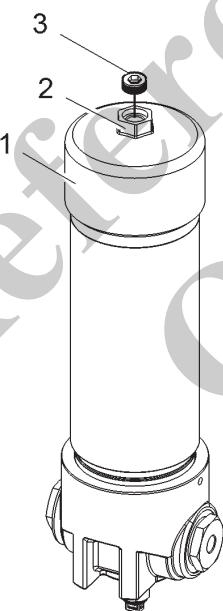

Fig. 21 HydroClean
3	Unscrew the cover (1) in Fig. 21 using the integrated hexagon head (2) in Fig. 21.
8	Reinstall the cover (1) in Fig. 21.
10	Unscrew the socket head screw (3) in Fig. 21 slightly until the vent opening is exposed.
11	Close the socket head screw (3) in Fig. 21 as soon as oil escapes.